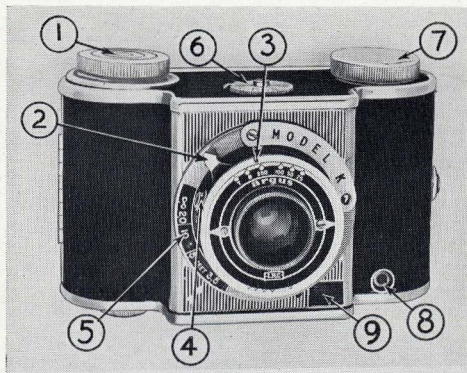
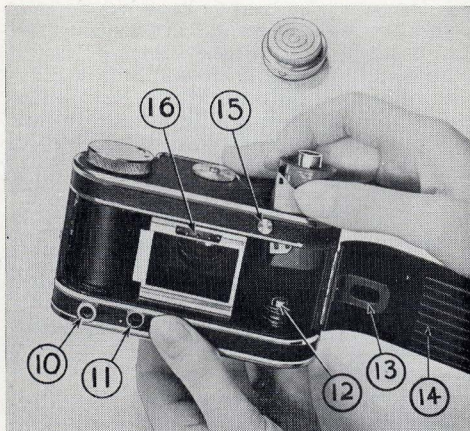
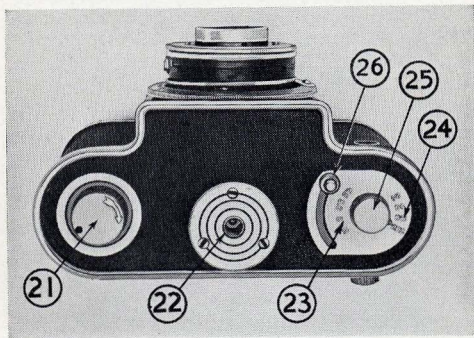

FIGURE 1
FIGURE 2
FIGURE 4
Figure 2 shows a standard 35 mm. daylight loading cartridge being inserted into the camera. This is accomplished by pulling off the cartridge chamber cover (1, Fig. 1), and dropping in the cartridge with the round spacer bushing up. The projecting end of the film should be held back in the opposite direction from which the film is wound, as shown, so that when the cartridge is in the case, the end will not be hidden behind the cartridge. Drop the cartridge down over the rewind shaft (12) engaging the slot on the shaft with the tongue in the cartridge and compressing the cartridge ejector spring. Replace the cartridge chamber cover taking care that the round spacer bushing on the
that the longest point of the film lies in the center where it can slip under the holding spring. Wind one turn of film onto the shaft for security while holding down release button (15, Fig. 2). Be sure that the sprocket is engaged with the perforations of the film. Push the latch button up toward the top of the camera, close the back and then permit the latch to spring back and lock. Always try the back and be sure it is completely locked.
After the back is in place, the film must be advanced until a new exposure is in correct place behind the lens. This is accomplished by turning the winding knob (7, Fig. 1) in the direction of the arrow until a click is heard or the film counter dial (6, Fig. 1) stops rotating. Depress the counter dial release (15, Fig 2) momentarily while advancing the film and advance one full rotation of the counter dial. Repeat this operation twice. At this point unexposed film is in correct exposure position for the first picture. The counter dial should now be rotated in a counter-clockwise direction with the thumb until the zero figure is opposite the counter dial indicator point. The counter dial is held in place by a friction arrangement and a firm pressure is necessary to set the dial.
After the first picture is taken the film should be advanced at once to form a habit of preventing double exposure, or blank frames. When the film is advanced one frame the counter dial advances nearly a full revolution and will stop opposite figure 1 indicating the number of exposures made.
When the 36 exposures have been completed, rewind the film by turning the rewind knob (21, Fig. 4) in the direction of the arrow until the winding knob (7, Fig. 1) stops rotating. Never open the camera back until the film has been rewound.
Shutter speeds are set by turning the knurled ring (3, Fig. 1) until the indicator mark is directly above the desired speed. A setting midway between marked speeds will result in that fraction of a second. For example with the indicator between 1/50 and 1/100 the shutter will operate at 1/75 of a second. The shutter speeds are as follows: 1/25, 1/50, 1/100, 1/200, "B" and "T".
To use the meter, first decide on the proper shutter speed as described in the paragraph above. Then set the dial pointer (25, Fig. 4)
on the bottom of the exposure meter to this speed on scale (24). Push the little knob (26) clear back to the position opposite f:4.5 on scale (23). Turn the camera so that the exposure meter window (8, Fig. 1) is turned on the object desired to photograph. Point the meter at the subject of interest and be careful not to include more sky or background than necessary. If the degree of brightness of the subject varies considerably or shadow detail is desired aim the meter at the shaded parts and approach as close as possible to them. Now look into the exposure meter tube (10, Fig. 2). A light dot will be noted at the end of the tube.
Pull the knob (24, Fig. 4) back toward the f:11 position until the light dot just disappears or "extinguishes." Set the knob at the exact point where the dot disappears. The lens is now set for proper exposure if the shutter speed dial is set to the speed at which pointer (25) is set.
The iris diaphragm regulates the amount of light passing through the lens. It is set directly by turning lever (26, Fig. 4). The diaphragm size is indicated on scale (23) as follows f:4.5, f:4.6, f:8, and f:11. The f:4.5 is the greatest aperture possible and admits the most light. Each smaller stop admits about one-half as much light as the preceding one. Decreasing the diaphragm opening increases the depth of field. Scenes and landscape should always be stopped down to at least f:8.
The lens is focused by turning of ring (5, Fig. 1). The lens is set to focus on an object at the distance from the camera which appears on the ring opposite the arrow on the core. For quick focusing on candid shots the focusing scale is divided up into "zones" of different colors. The zone from infinity to 18 feet being for distant and landscape work, the 18 to 6 foot zone for nearby groups and objects, and the close up zone from 6 feet to 3.5 feet is for portraiture and very close objects. The depth of focus of the Argus lens is so great that very good results can be obtained by just focusing to the proper zone and shooting. This permits of great speed in using the camera. Where critical sharpness of a certain object and where maximum enlargement is desired, set the scale to the exact footage.
The tripod socket (22, Fig. 4) is tapped with the standard American thread. Any American or Argus tripod will fit Argus Cameras.
The camera is aimed at the subject by holding the back of the camera firmly against the face or forehead and sighting through the rear view finder (11, Fig. 2). The view finder shows the subject as it will appear when photographed. The view finder is purposely designed to cover slightly less of the subject than that actually photographed. This difference provides a safety factor and prevents cutting off parts of interesting subjects.
The shutter should be operated with a steady squeezing action on the lever, (2, Fig. 1) while the camera is held firmly against the face.